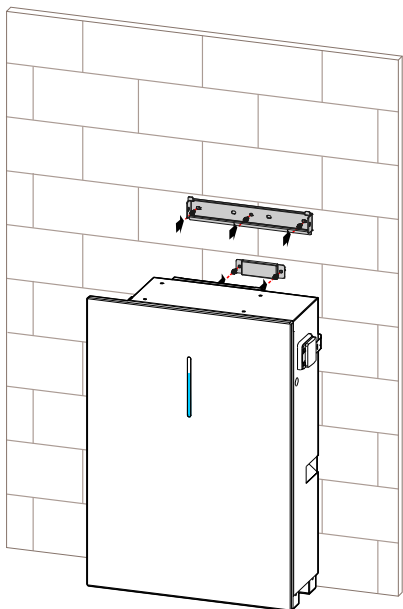

Figure3-21 Install expansion plugs
- Step 3 Attach the wall bracket to the wall using the screws with the tool of hexagon sleeve, as shown in Figure3-21.